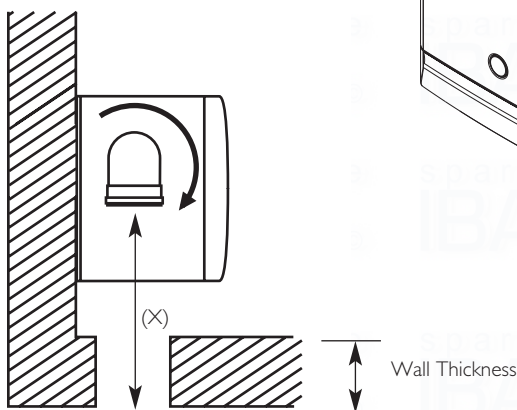

Fig. 38
4. Measure the distance from the outside wall face to the elbow. This dimension will be known as 'X' (Fig. 38).
5. If the distance from the flue elbow to the outside face of the wall ('X' in Fig. 38) is less than 250mm the Connection Assembly can be discarded and the Terminal Assembly fitted directly into the elbow.
6. In instances where the dimension 'X' (Fig. 38) is between 250mm and 315mm it will be necessary to shorten the Terminal Assembly by careful cutting to accommodate walls of these thicknesses.